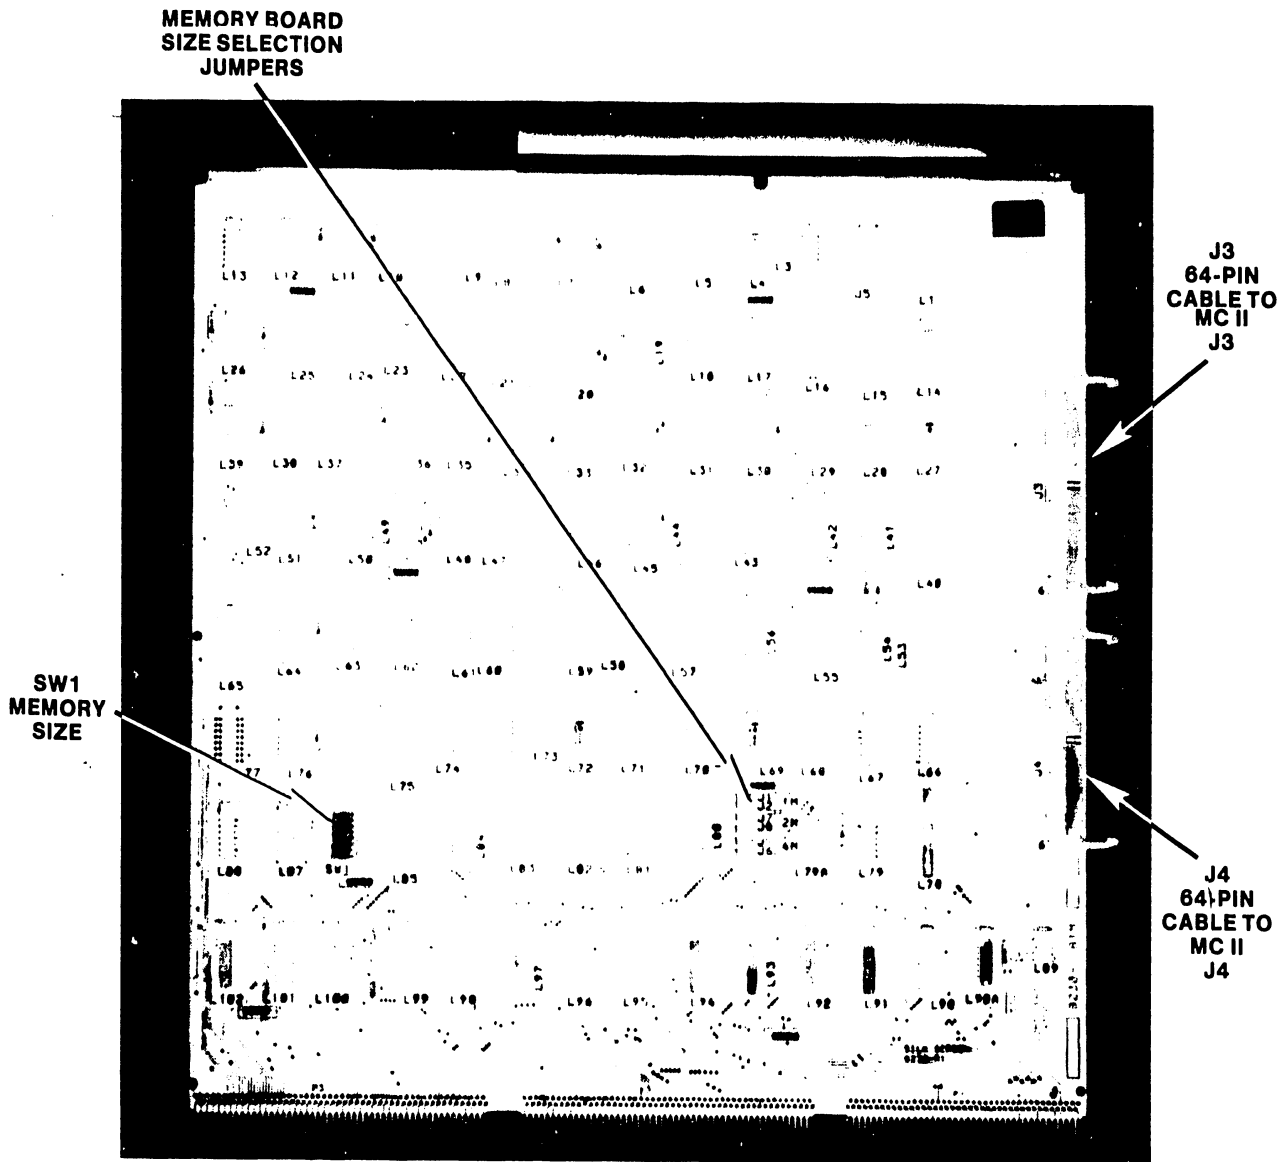

Figure 5-8. 210-8230 Memory Controller I Board
1. If the system has a Memory Controller I board (figure 5-8) in Mother-board slot #4, disconnect the 64-pin connectors from J3 and J4 on the front of the board.
2. Refer to table 5-1 and install the new Main Memory board(s). If installing a new board means the main memory capacity will change, see figures 5-8, 5-9, and 5-10, or 5-11, 5-12, and 5-13.